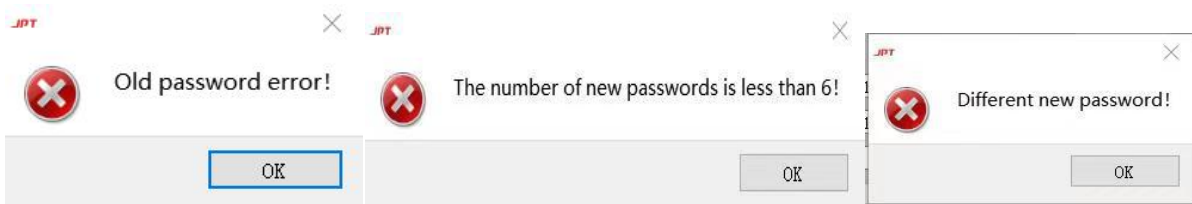

Figure 12
6) A few errors might appear during password changes, as shown in figure 12.